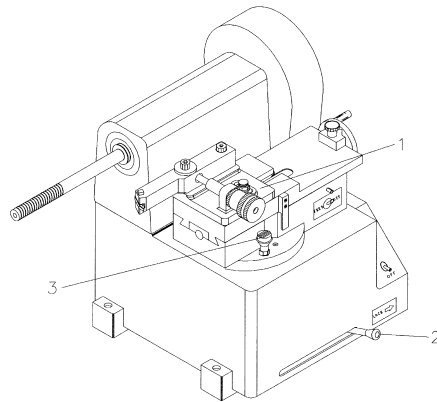
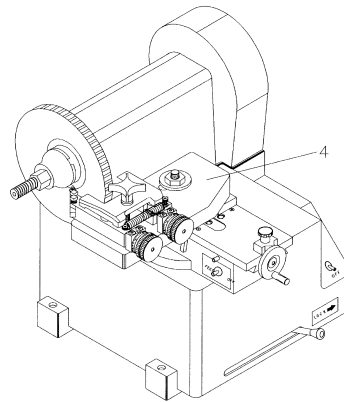

Fig. 2
Fig. 3
In Figure 2 we show the carriage parallel to the spindle shaft with the boring bar assembly installed ready to resurface drums.
In Figure 3 we show the carriage rotated 90 degrees to the spindle with the twin cutter assembly installed ready to resurface rotors.
To change position of carriage from drum (Fig.2) to disc (Fig.3).....
To change position of carriage from disc (Fig.3) to drum (Fig.2).....
**Note:** Before proceeding make sure all switches are in the “OFF” position and the carriage is locked in the drum position. See Carriage Setup page 6, Fig.2.
**Note:** Before proceeding make sure all switches are in the “OFF” position and the carriage is locked in the rotor position. See Carriage Setup page 6, Fig.3.